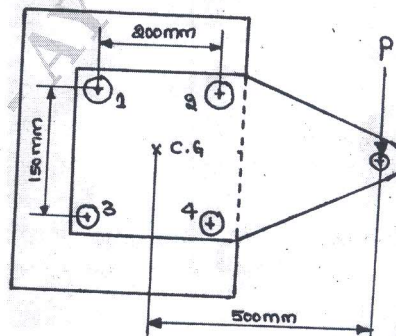

Fig Q9(a)
9. a. The structural connection shown in Fig Q9(a) subjected to an eccentric load of 10kN. All bolts are identical and having shear strength of 80MPa.